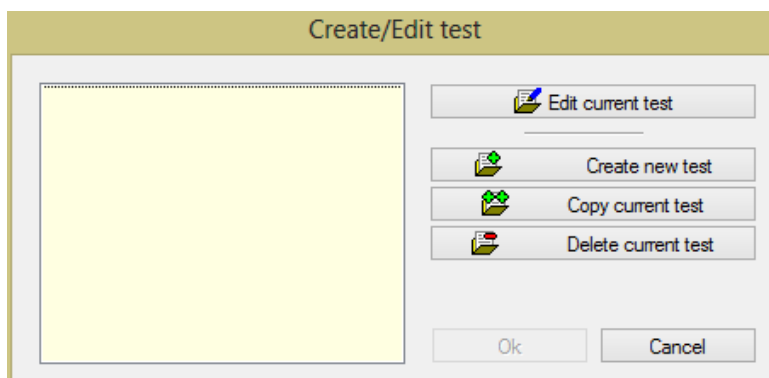

Fig.16 Window «**Create a new test**»
1. To create a new test, click the menu **Test** of the RealTime_PCR window and choose the command **Create/edit test**. In the appeared window (Fig.16) click **Create a new test DNA-Technology, Research & Production LLC**